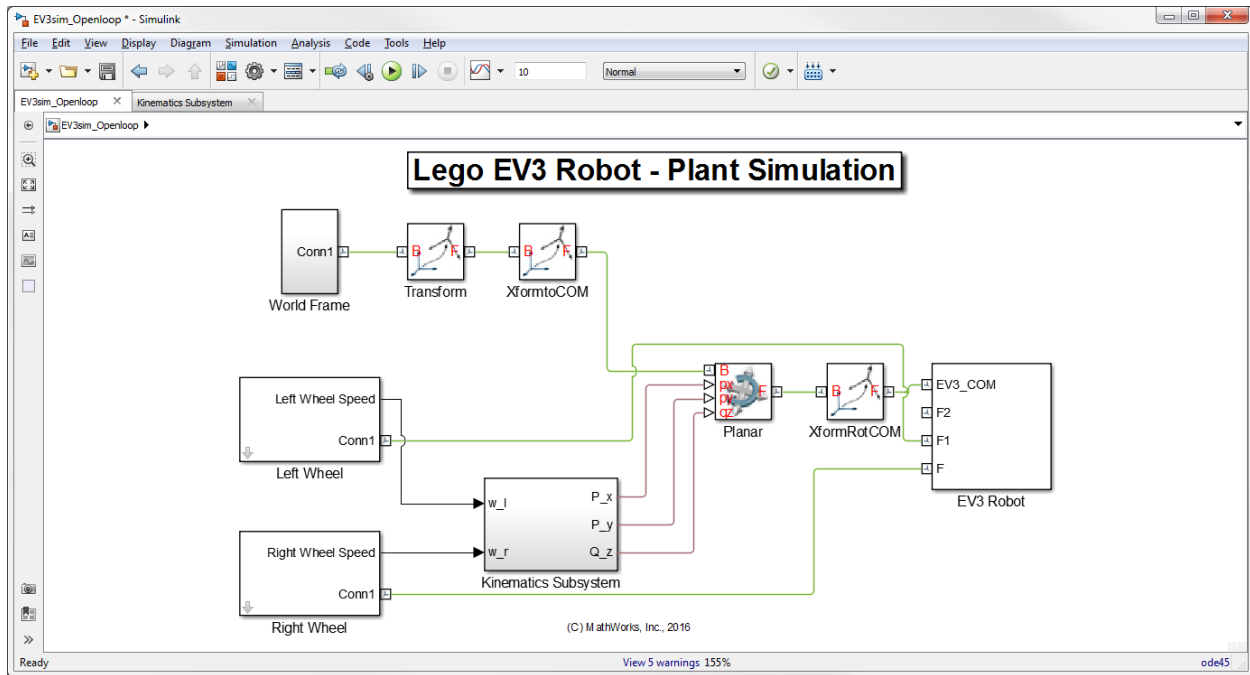

Figure 32 – Open Loop EV3 Robot Simulation Model
1. Open the supplied model 'EV3sim_Openloop.slx' as shown in Figure 32.